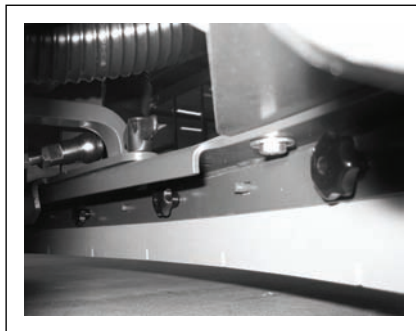

Fig. 37
The squeegee is also equipped with front sealing and support strips and clamping rail (Fig. 37).
6. Disassemble the front sealing strip (Fig. 37) in the same way.